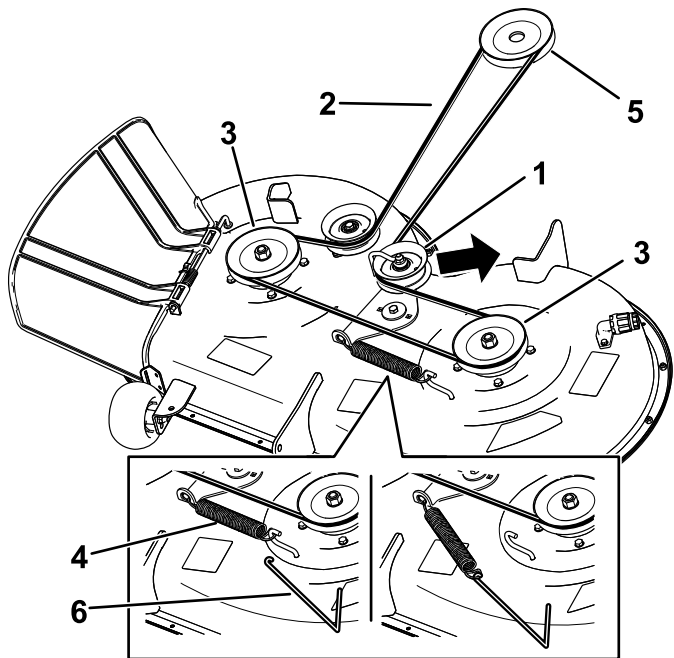

Figure 57
2. Screw (3)
6. Using a spring-removal tool (Toro Part No. 92-5771), remove the idler spring from the deck hook to remove tension on the idler pulley, and roll the belt off the pulleys (Figure 57).
7. Route the new belt around the engine pulley and mower pulleys (Figure 57).
8. Using a spring-removal tool (Toro Part No. 92-5771), install the idler spring over the deck hook and place tension on the idler pulley and the mower belt (Figure 57).